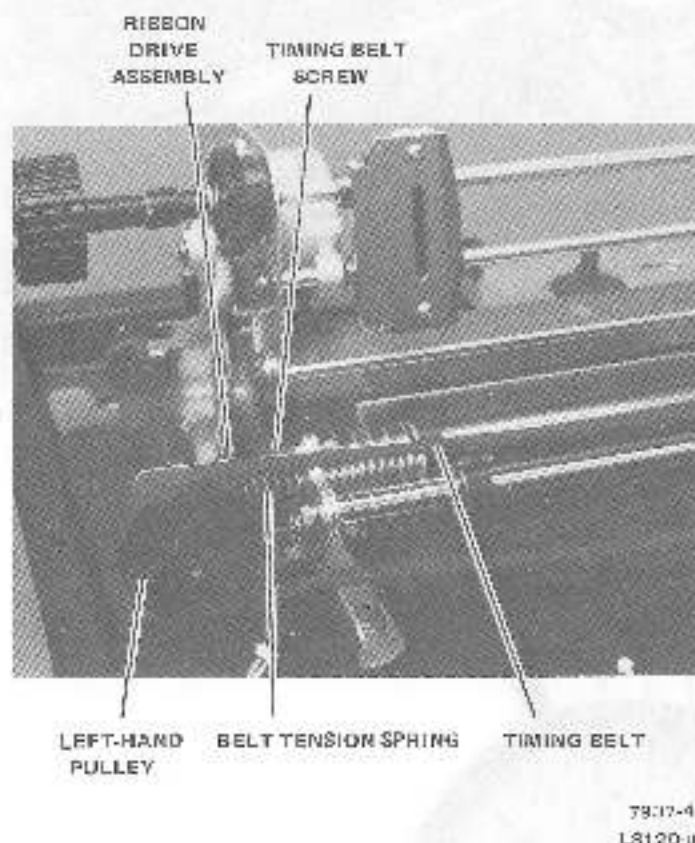

Figure 7-15 Belt Tension Spring Location
15. With the belt tension spring (Figure 7-15) in place, press the left-hand pulley against the printer mechanism and slip on the new timing belt.
16. Rotate the timing belt screw (Figure 7-15) until it just touches the ribbon drive assembly. The screw should not exert pressure on the ribbon drive assembly.